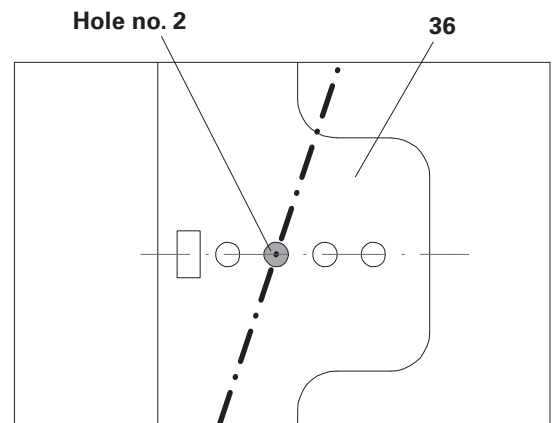
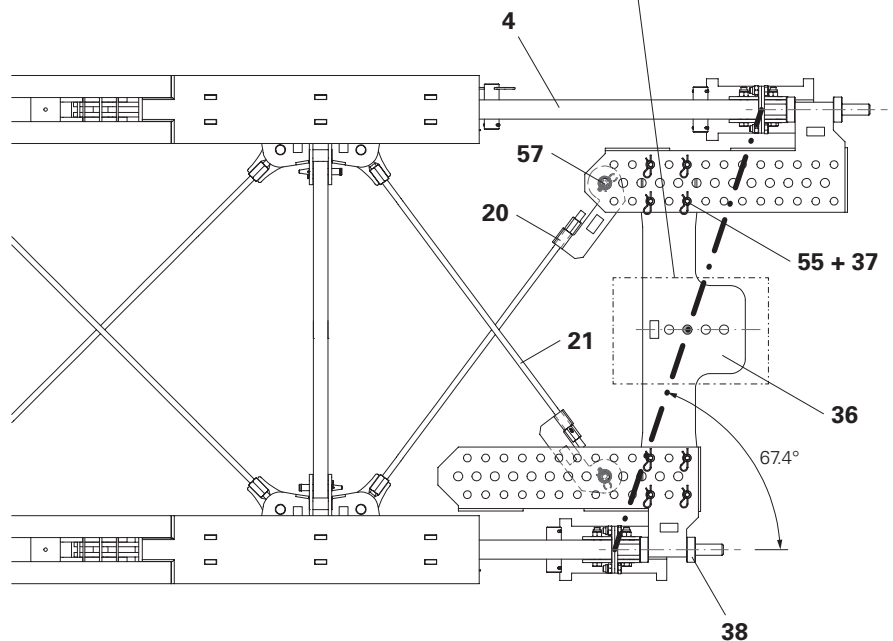

Fig. D3.01a
Fig. D3.01
- Figures D3.01 and D3.02 serve as examples.
1. Extend the bearing frame (4). (Fig. D3.01)
2. Fit the bracing traverse (36).
3. Adjust the bracing traverse with the help of the bracing spindles (38). One of the four holes must be centred on the connecting line of the two bracing spindles. In this example, hole no. 2. (Fig. D3.01a)
4. Fit the articulated spanner (20). For this, insert the bolts (57) into the first available hole and secure with a cotter pin.
5. Adjust the tie rod (21) so that it is free of any play.